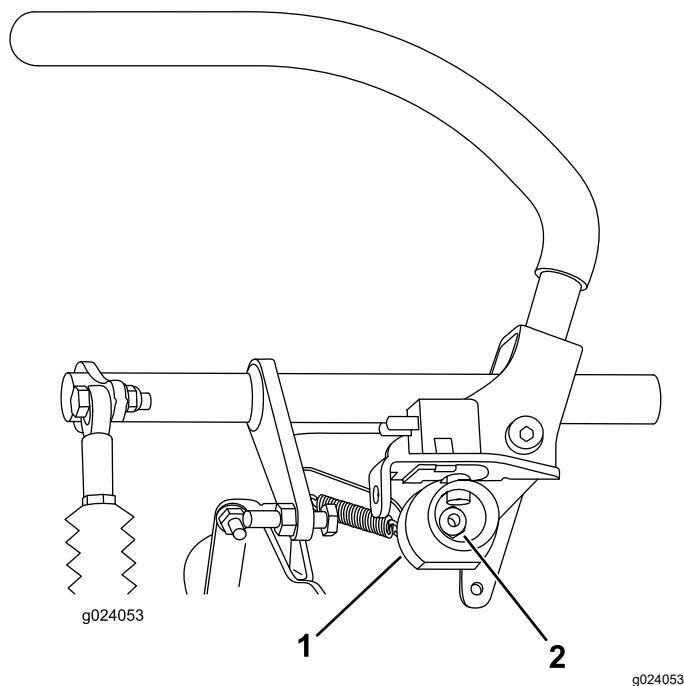

Figure 65
6. Loosen the nut holding the cam (Figure 65).